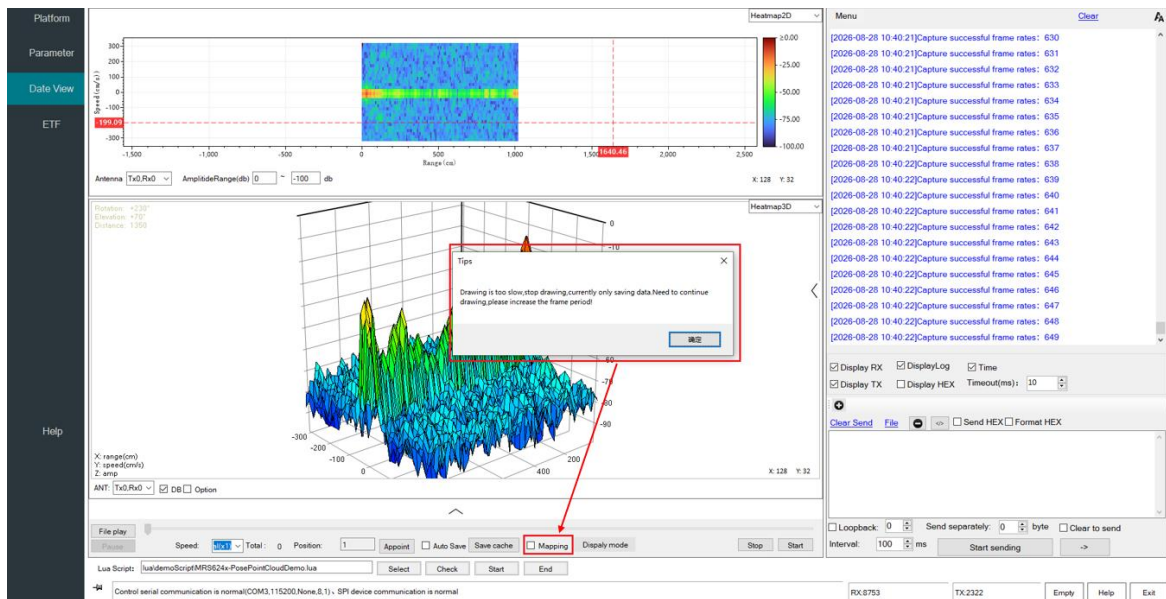

Figure 2-43 Restarting Plotting
- 4、 As shown in Figure 2-43, if continuous plotting causes the "Plotting is too slow. Plotting stopped." message to appear and plotting stops, reselect Enable Plotting at the bottom of the view.